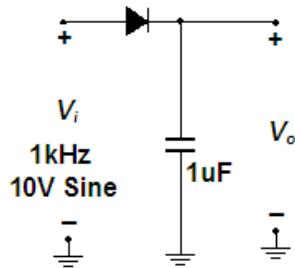

Fig: 8
1. Connect the circuit as shown in fig 8. Set both channels of oscilloscope at 10 volt per division.